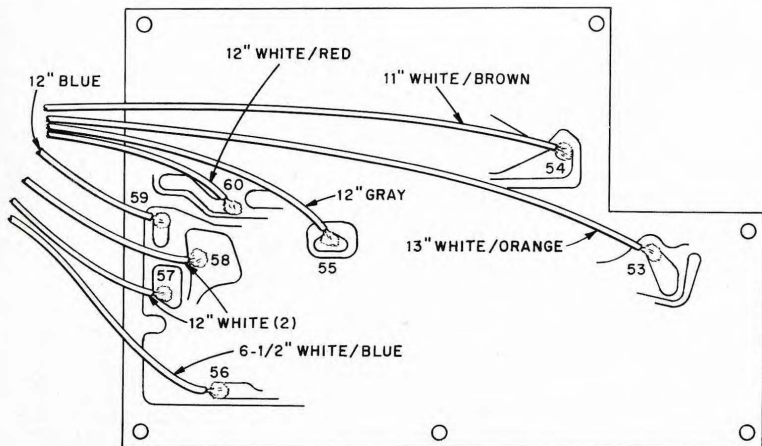

FIGURE 8.
- ☐ IF printed circuit board. See Figure 8.